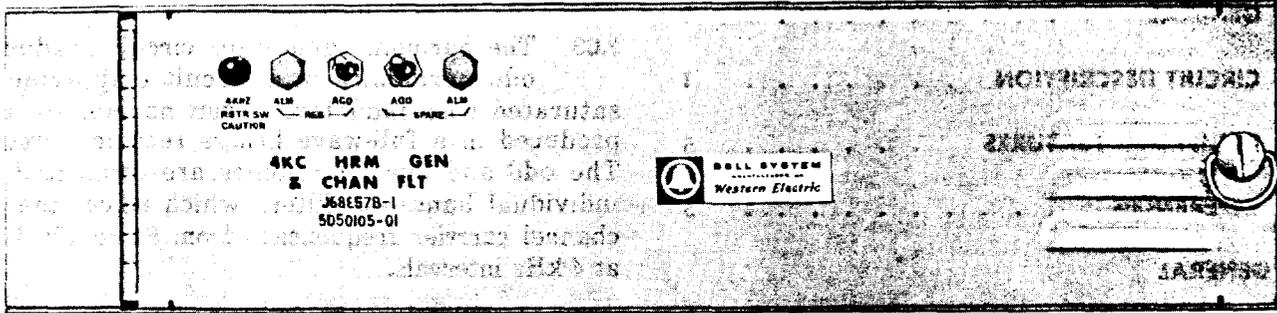

Fig. 1—J68857B Channel Carrier Generator and Filter Unit—Front View
**2.01** The J68857B carrier generator and filter unit (Fig. 1) contains the following circuits:
**3.01** The J68857B channel carrier generator and filter unit is 5-1/4 inches high and is designed to mount in a standard 19-inch duct-type bay. The unit has a front-to-back depth of 10-1/2 inches and is designed for back-to-back bays. A hinged front panel cover allows access to all individual modules for maintenance. The alarm lamps and alarm cutoff switches are mounted on the front cover. The 4-kHz restoration switch (RSTR SW) may be mounted in the top left corner of the panel (see Fig. 1).